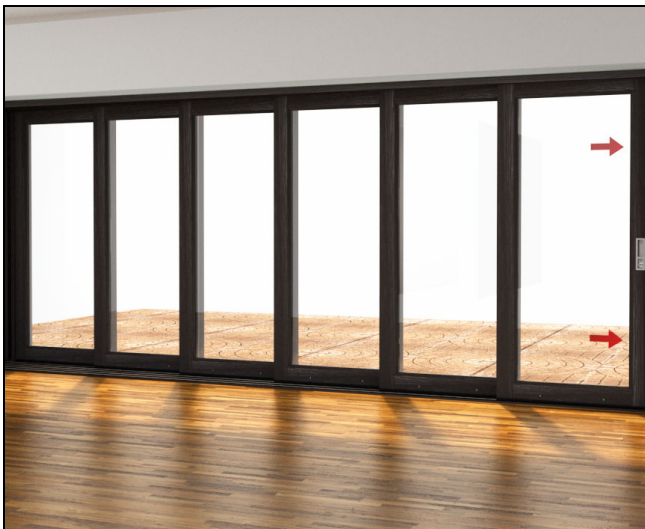

Figure 103
5. Operate the doors to ensure smooth movement and check positioning of the interlocks, head jamb, and side jambs. To ensure pocket interlock is placed correctly, close all panels, making sure primary panel locks properly. Make any necessary adjustments at this time. See figure 103.